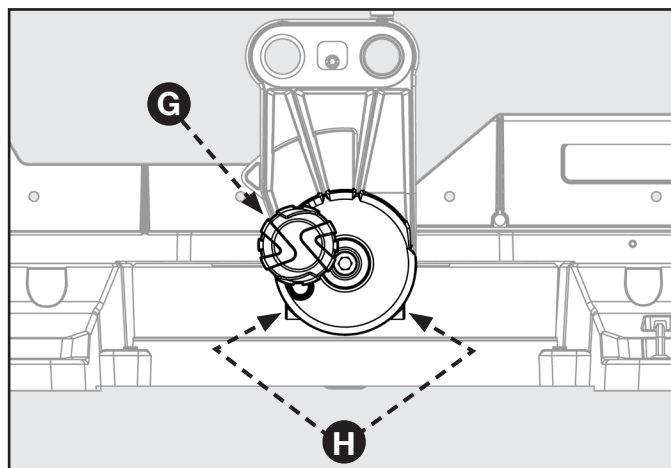

FIGURE 13
10. If the top or bottom of the blade face is not flush with the square, refer to Figure 13 below and perform the following steps.
11. Loosen bevel lock knob (G).
12. Adjust positive stop adjustment screw (H) to bring saw blade into alignment with the square. See “Positive Stop Screw” in the Adjustment section of this manual for more detailed instructions.